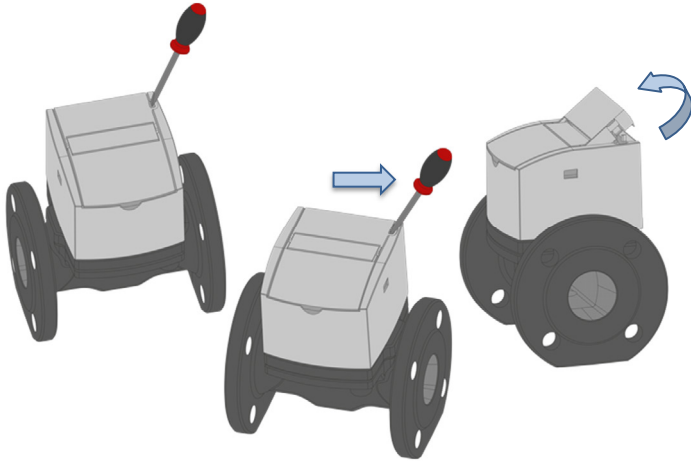

Fig. 28: Breaking of communication seal and lifting of module lid
**Step 1:** Remove communication seal and open module lid, as shown in Fig. 28.